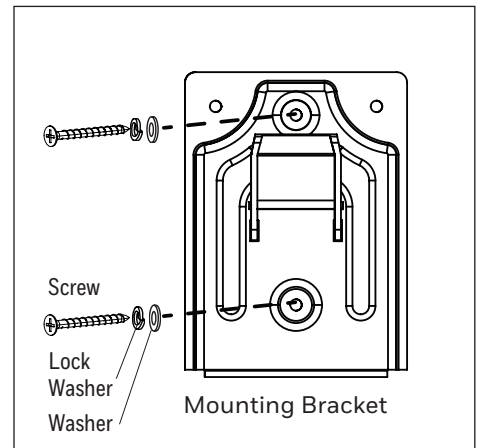

Figure 1.3
3. Use a Phillips screwdriver to install the two bracket screws along with washers and lock washers through the mounting bracket, drywall (if applicable), and into the stud. **Note:** Drilling pilot holes can make screw installation easier. If desired, use a drill with an 1/8" diameter drill bit (or smaller) to drill the pilot holes (Figure 1.3).